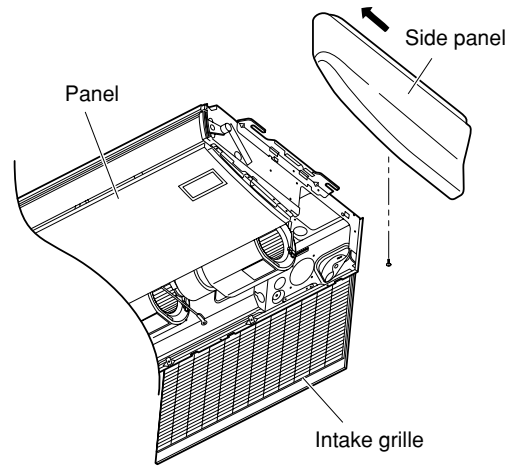

Fig. 11-7
- (1) To take off the side panel, open the intake grille and remove the screw. Then remove the side panel by moving it toward the front (direction of arrow). (Fig. 11-7)